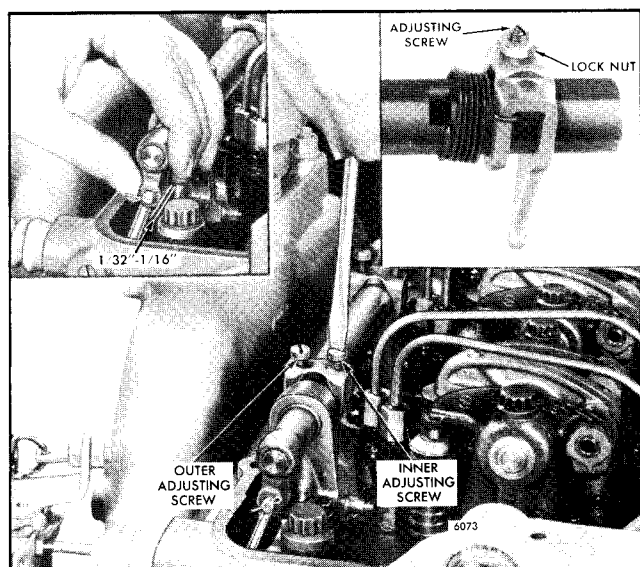

Fig. 3 - Adjusting Injector Rack Control Lever Adjusting Screws
5. Move the rear injector control rack into the full-fuel position and note the clearance between the fuel rod and the cylinder head bolt. The clearance should be $1/32$ " or more. If necessary, readjust the injector rack adjusting screws until a clearance of at least $1/32$ " to $1/16$ " exists. Tighten the adjustment screws or screw and locknut (Fig. 3).